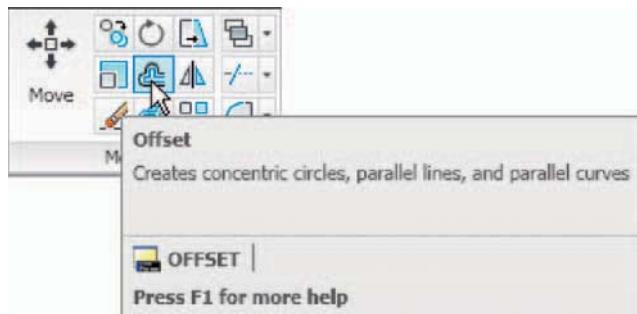
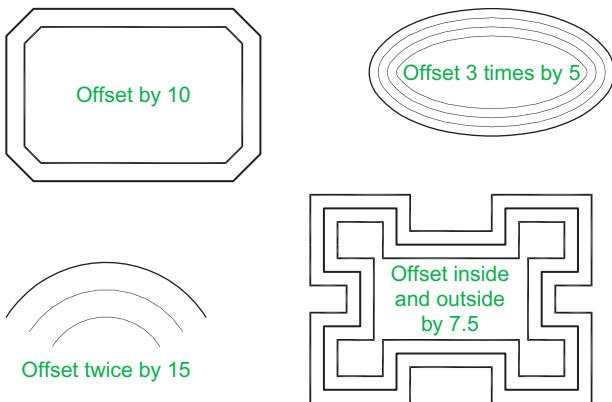

Fig. 5.12 The **Offset** tool from the **Home/Modify** panel
Fig. 5.14 Examples – Offset
Examples – Offset (Fig. 5.14)
2. Call the **Offset** tool – *left-click* on its tool icon in the **Home/Modify** panel (Fig. 5.12), pick the tool from the **Modify** toolbar, pick the tool name in the **Modify** drop-down menu, or *enter o* or **offset** at the command line. The command line shows:
3. Repeat for drawings **2**, **3** and **4** in Fig. 5.12 as shown in Fig. 5.14.